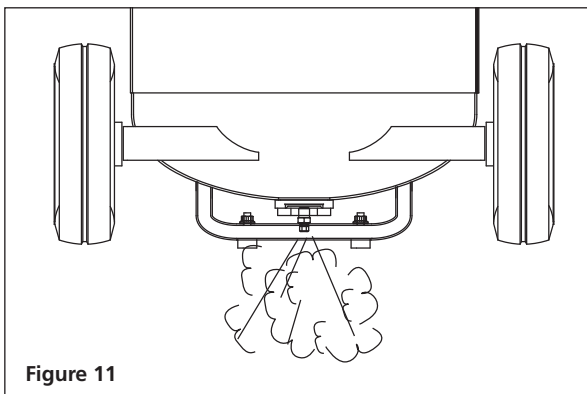

Figure 11
2. Open the bottom tank drain valve (see Figure 11). Turn outlet valve to open air flow.
Drain Tank: Disconnect, tag and lock out power source; release pressure. Drain moisture from tank by opening drain valve underneath tank once tank pressure is less than 40 PSI (See Figure 11 on page 12).